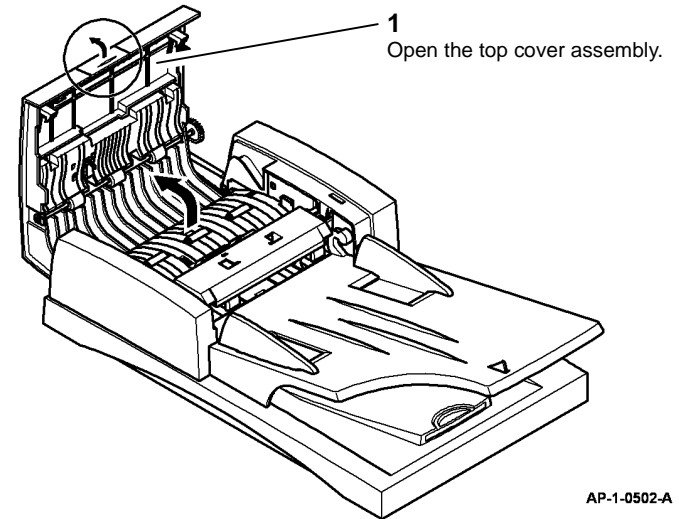

Figure 3 Top cover assembly
4. Open the top cover assembly, Figure 3.